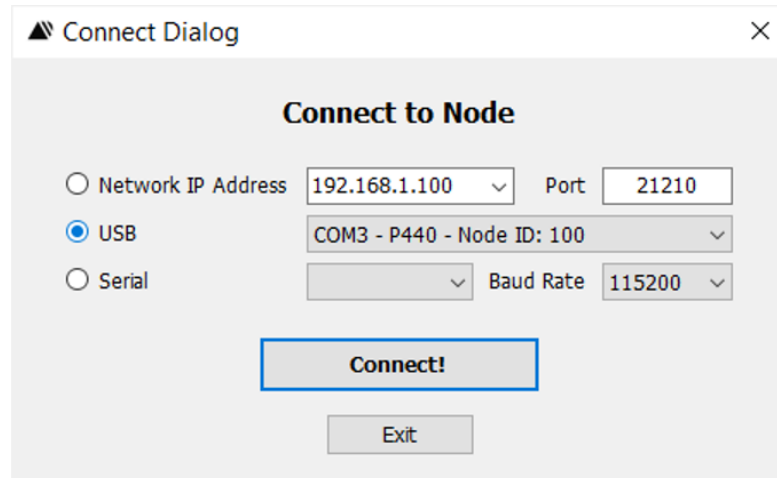

Fig. 20: CAT connect screen after USB connection
2. Connect the USB cable to both the P452 and the Host computer. A system message should appear indicating that the system has identified a new connection and the correct driver is being connected. This typically takes only a few seconds but on some systems could take as long as two minutes. Once that process is complete, CAT will set the USB button and indicate which COM port is connected to the P452. This is illustrated below in **Figure 20**.